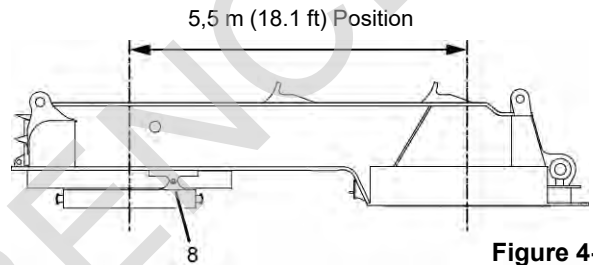

Figure 4-45
- a. Attach four lifting pendants (2) to the lifting slings (4) from the assist crane with the lifting plates (3).
- b. Attach the other end of the lifting pendants (2) to the lifting lugs (5) on the counterweight tray (1).
3. Attach hand-held taglines (6) to the lifting lugs (7) on the rear corners of the tray. Have ground personnel control swinging of the tray with the taglines.
- Series 0 Counterweight: connecting lugs (8) toward FRONT of crane. This is the 5,5 m (18.1 ft) position given in the Series 0 Capacity Chart (Figure 4-45).